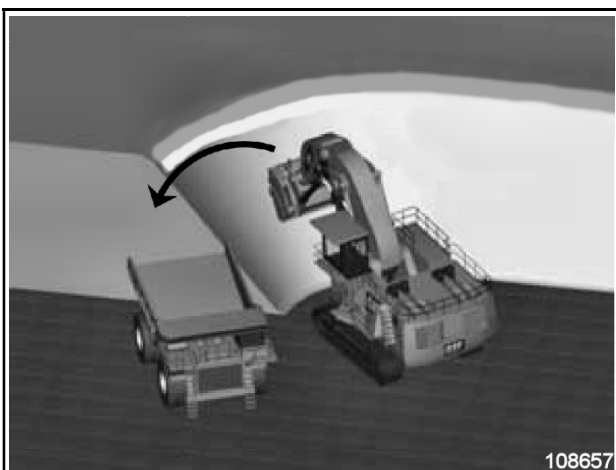

Fig. 2-156:
- Position the truck as closely as possible to the hydraulic shovel (Fig. 2-156:).